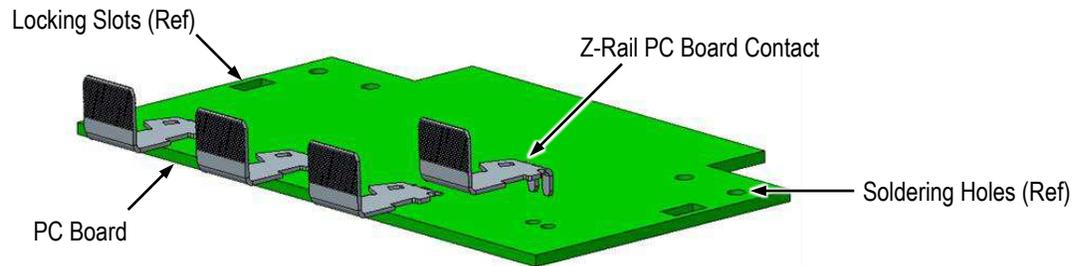

Figure 2
1. Install the Z-Rail pc board contacts onto the pc board using wave or hand soldering. Refer to Figure 2.